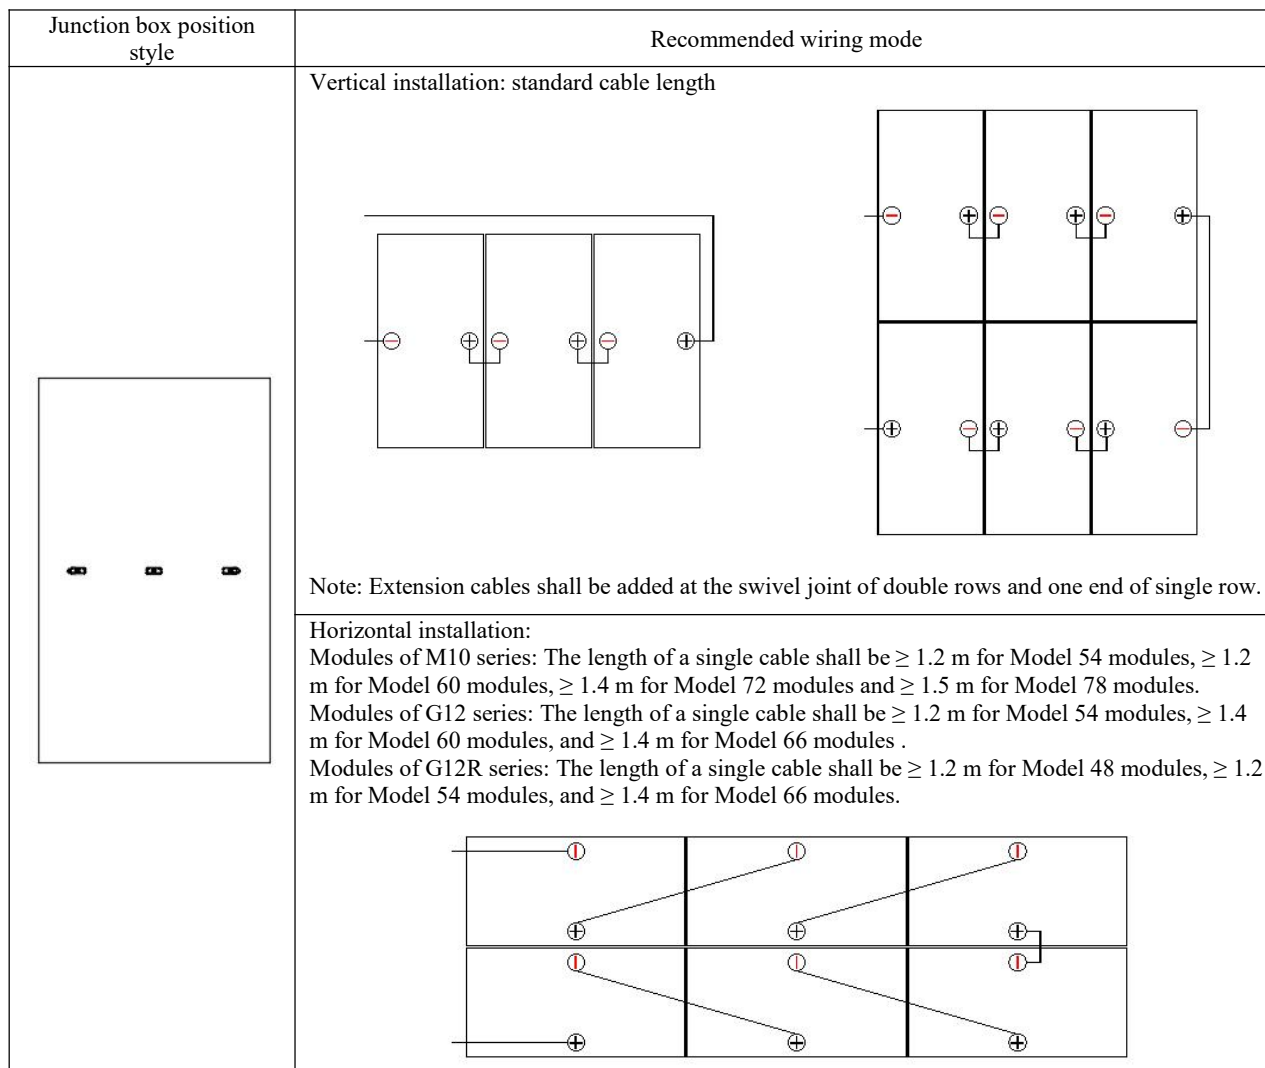

Figure 22 Common arrangement of modules
- The common arrangement of modules includes wiring in single vertical row, double vertical rows, single horizontal row, and double horizontal rows, as shown in Figure 22.